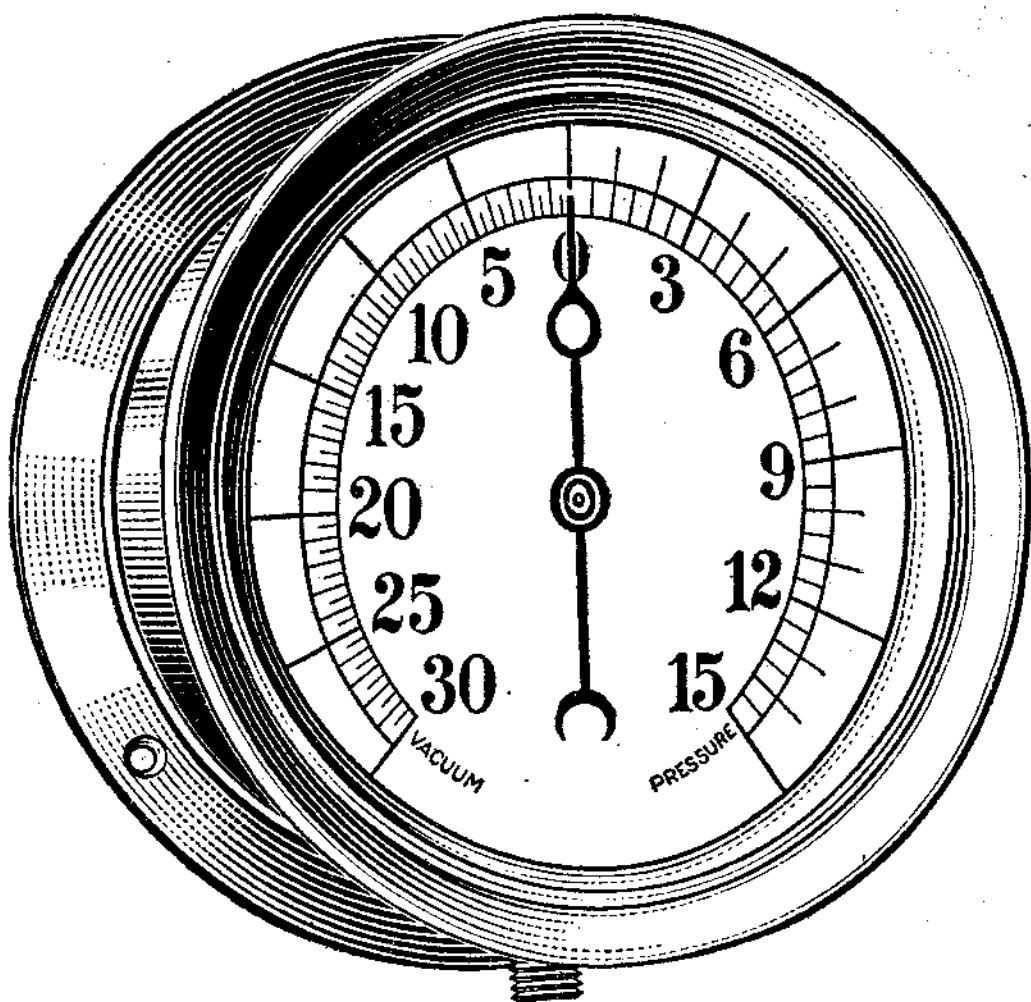

FIG. 6
14. A compound pressure and vacuum gauge is shown in Fig. 6. The scale over which the end of the pointer moves